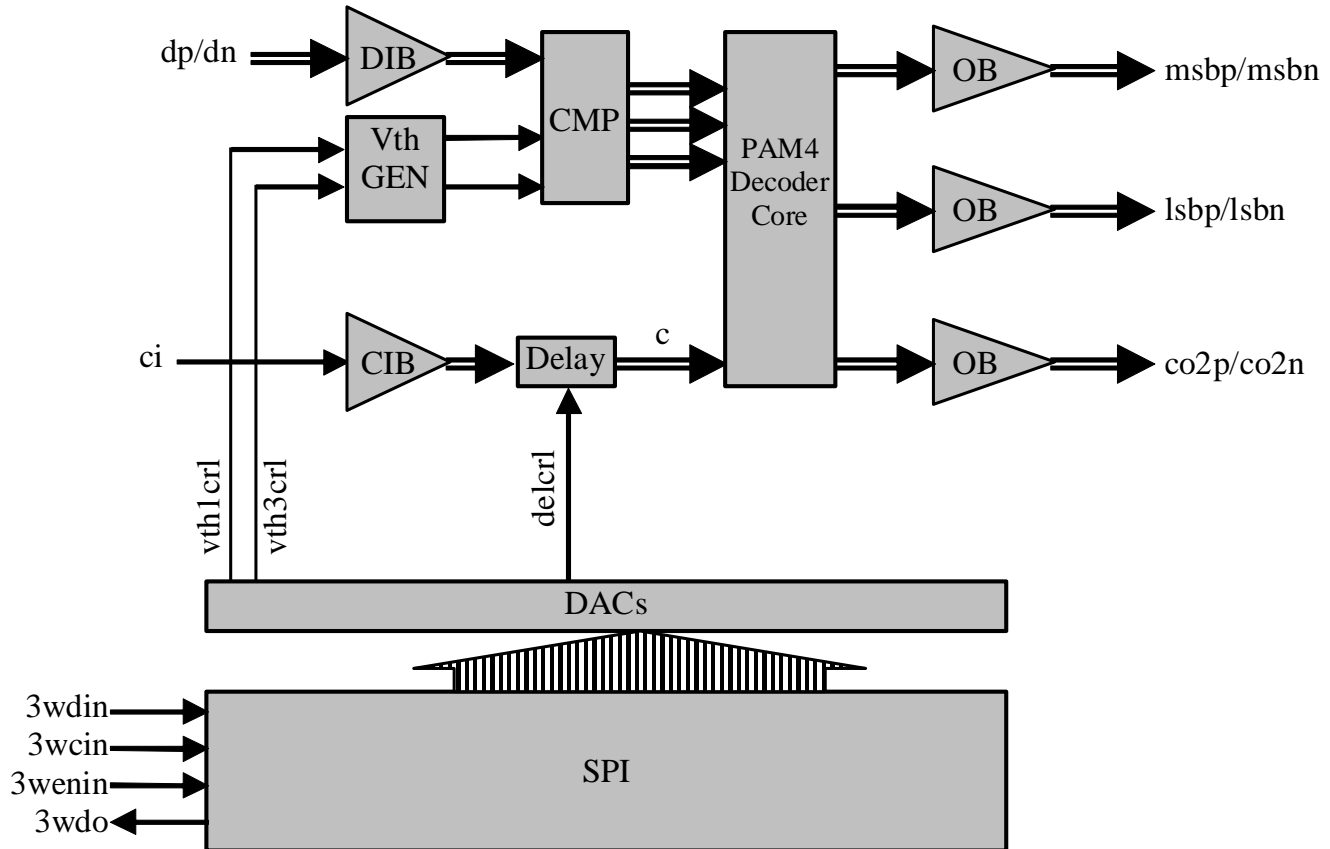

Fig. 1. Functional Block Diagram
The ASNT6104-PQB SiGe IC shown in Fig. 1 is a PAM4 decoder. The differential PAM4 input data signal dp/dn is processed by the linear input buffer (DIB) and is sent to the Comparator block (CMP). Three limiting buffers inside CMP process the 3-level PAM4 signal. One of the buffers processes the input signal differentially. The other two buffers compare single-ended data to their own threshold levels that are produced by the Voltage Threshold Generator block (Vth GEN). The three resulting differential binary data streams are sent to the PAM4 Decoder Core where they are retimed by D-type flip flops (DFFs) with a full-rate external clock, and delayed by the adjustable delay line block (Delay). The three differential signals are decoded into two differential data streams. The two signals are retimed again, and are sent to the output through Output Buffers (OB).